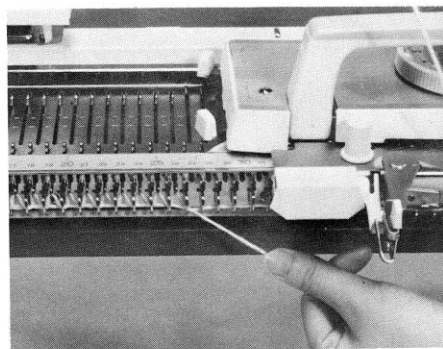

Fig.45
- j) Pull the loose end of wool gently along the sinkers towards the right until the wool is taut as shown in Fig.45.